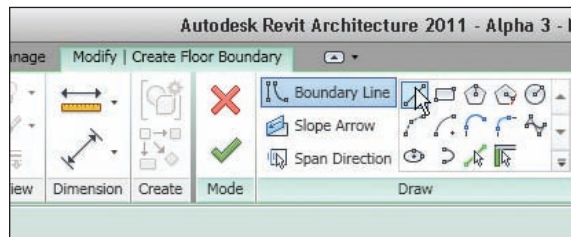

FIGURE 6.13 Sometimes you will need to click the Line button to draw the edge of the slab freehand.
5. To add the east edge of the slab, Revit will not really let you pick the wall. If you do, the magenta line will go either to the core center line or to the opposite face of the wall. At this point, click the Line button on the Modify | Create Floor Boundary tab, as shown in Figure 6.13.